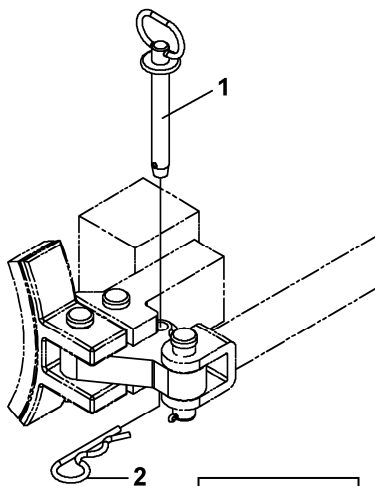

Figure 6
5. Install the lock pins (1) and hairpin cotters (2) as shown in Figure 6.
6. Install the lock pins (1) and hairpin cotters (2) (Figure 6).